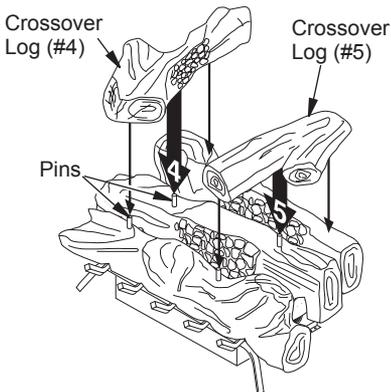
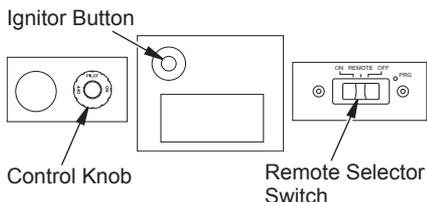

Figure 32 - Installing Crossover Logs (#4 & #5) (Base may vary from illustration)
Figure 36 - Remote Selector Switch, Control Knob and Ignitor Button
- Place left crossover log (#4) across logs #1, #2 and #3 fitting holes on bottom of log #4 onto pin on front and middle logs as shown in Figure 32.
- Place right crossover log (#5) in the same manner on right side of logs (see Figure 32).
3. Set remote selector switch in the AUTO position (see Figure 36).
4. Press in and turn control knob clockwise ↻ to the OFF position (see Figure 32).
5. Wait five (5) minutes to clear out any gas. Then smell for gas, including near the floor. If you smell gas, STOP! Follow "B" in the safety information on page 20. If you don't smell gas, go to the next step.
6. Press in and turn control knob counterclockwise ↻ to the PILOT position. Press in control knob for five (5) seconds (see Figure 36).
1. Press on/off key on remote control and turn control knob clockwise ↻ to the OFF position (see Figure 36).
When batteries in receiver are low, no acoustic signal will be given when ON/OFF button is pressed. If batteries in receiver are low, fireplace can be switched on manually by moving remote selector switch to ON (see Figure 36, page 20).